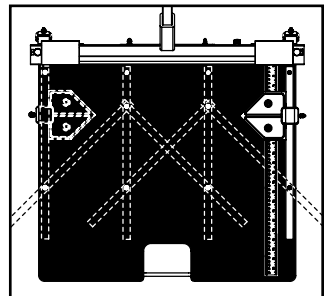
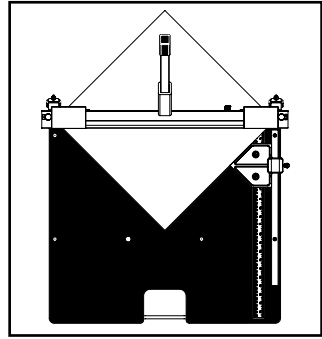

Figure 7
Figure 8
**MAKING CUTS:** Place the material to be cut on the bed of the cutter and slide it against the fence (see below and Figure 7) and beneath the blade. Keep hands away from the blade and out from under the blade carrier. Note that the blade produces the cleanest edge from its inner (bed facing) edge surface
The fence of the cutter is movable to any one of four straight positions, or any one of four 45° angle positions. (See Figure 7.) When cutting wood or laminate materials using this cutter, moving the fence helps position the material being cut under different areas of the blade, so that as areas of the blade become dull, other areas that are still sharp can be more easily used. Cutting under different areas of the blade also wears the cutter mechanism more evenly over time, extending the life of the tool. Cutting excessively under only one side of the cutter can cause premature wear.
The cutter comes with a cut guide (Figure 7) that attaches to the fence using a wing screw. The cut guide can be used to set a length of cut for repeating a length of cut. If the fence is moved to the left or right, the cut guide can be moved onto either side of the fence. The cut guide includes a 45° angle that can be used to make diagonal cuts in tiles up to 18" wide. Position the tile and cut guide approximately as shown in Figure 8,